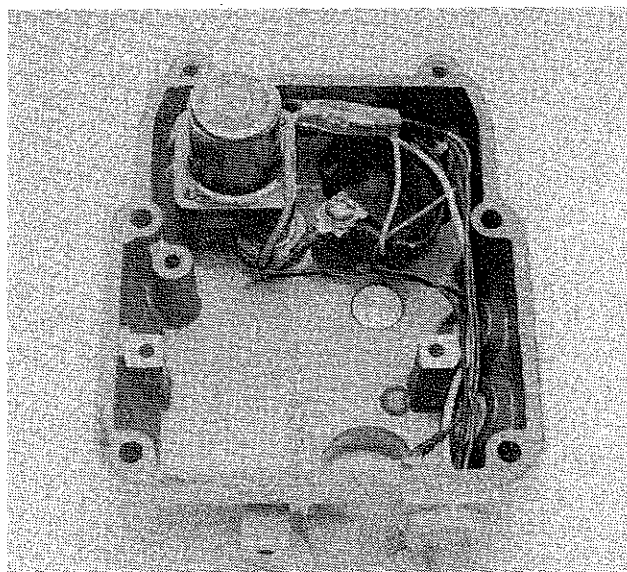

Figure 3
14. Grind or mill the three posts shown in Figure 3 approximately $\frac{1}{4}$ inch to clear the ignition coil when the box is closed.
15. Mount the switch module as shown in Figure 3, with the brown wire and separate blue wire under the attachment screw.